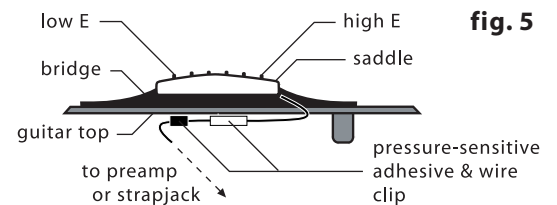

fig. 5
4. Insert the pickup all the way into the slot, lay the saddle on top of it and temporarily secure it with a piece of tape. Remove the backing from the adhesive on the end of the pickup hanging inside the guitar and attach it to the bridge plate or the underside of the top as shown in figures 5 or 6. Be careful not to place the adhesive over the bridge pin holes.